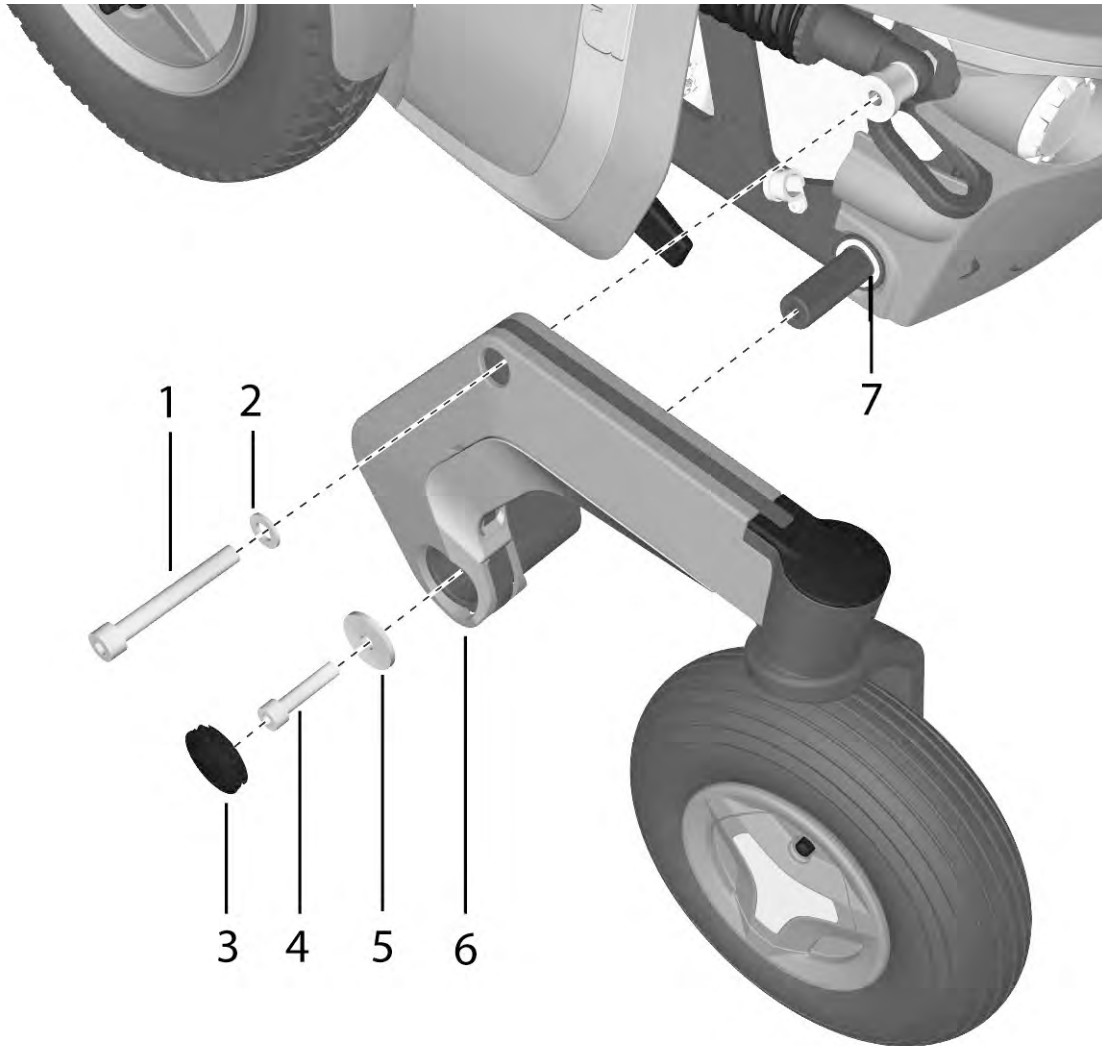

Figure 48. Fitting/removing the Rear Link Arm.
3. Remove the shock absorber from the link arm. It is fitted with one screw (1) and washer (2). See fig. 48.
4. Remove the cover (3) from the link arm by pulling it straight out. If necessary, carefully lever it out using a screwdriver in the slot on the cap. See fig. 48.
5. Remove the link arm (6), it's fitted with the screw (4) and the washer (5). See fig. 48.
2. Make sure the washer (7) is mounted on the axle. See fig. 48.
3. Assemble the link arm (6) onto the axle with the use of hand force only. Make sure the link arm is fully seated upon the axle. See fig. 48.
4. Fit the screw (4) and the washer (5). Tighten the screw using a torque wrench. **Tightening torque: 24 Nm / 17.7 Ft/lbs** See fig. 48.
5. Fit the shock absorber to the link arm. It is fitted with one screw (1) and washer (2). Tighten the screw using a torque wrench. **Tightening torque: 24 Nm / 17.7 Ft/lbs** See fig. 48.
6. Fit the cover (3) on to the link arm by pushing it straight in. See fig. 48.
2. Make sure the washer (1) is mounted on the axle. See fig. 48.